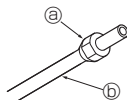

Fig. 5-5
5.2.3. Mutri kinnitamine (Fig. 5-5)